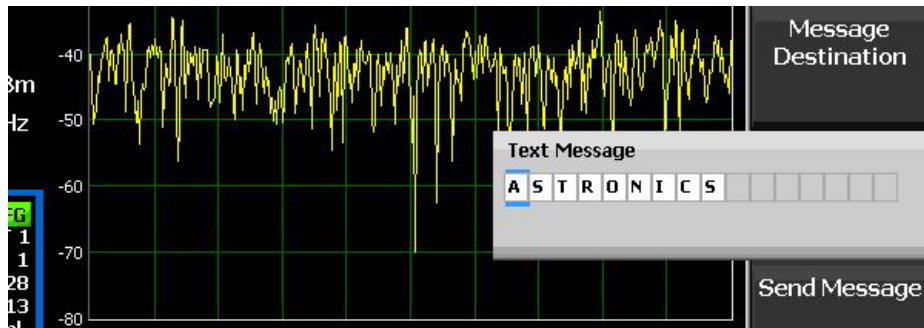

Figure 30 – Default Text Message
- If desired, change the set text message to a string for UUT transmission. The default value is “Astronics” (see Figure 30).